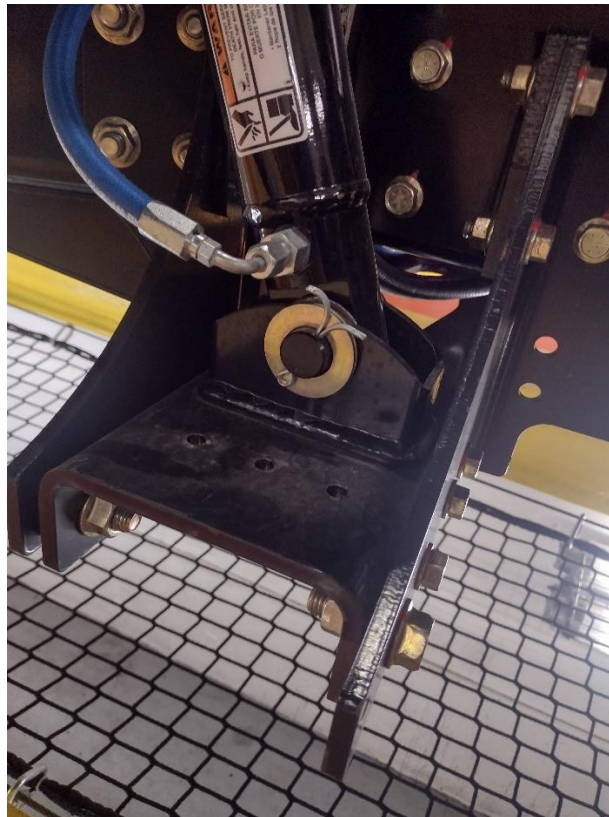

Figure 2.1
- 5) Cotter pin ends should be bent around the cylinder pin as shown in Figure 2.1